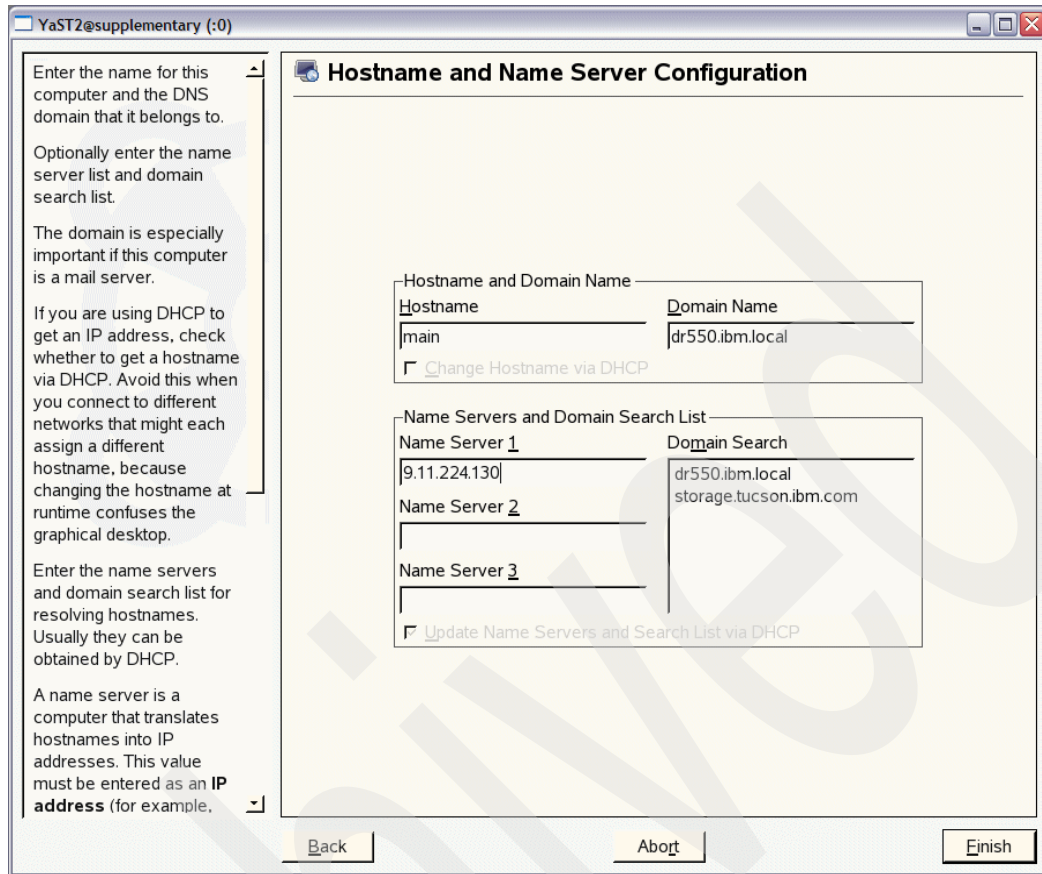

Figure 3-13 The yast2 dns window
- b. The graphical configuration interface of SUSE Linux displays (see Figure 3-13 on page 122). Do not change the local host name. Enter your domain name and the IP address of your name server in the appropriate field and click Finish.
- b. The graphical configuration interface of SUSE Linux displays (see Figure 3-13 on page 122). Do not change the local host name! Enter your domain name and the IP address of your name server in the appropriate field and click **Finish**.